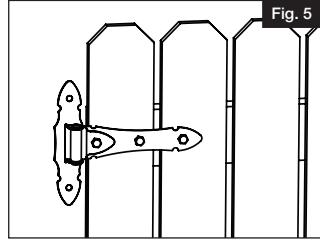

Fig. 5
- d. Fasten screws provided (Fig. 5).